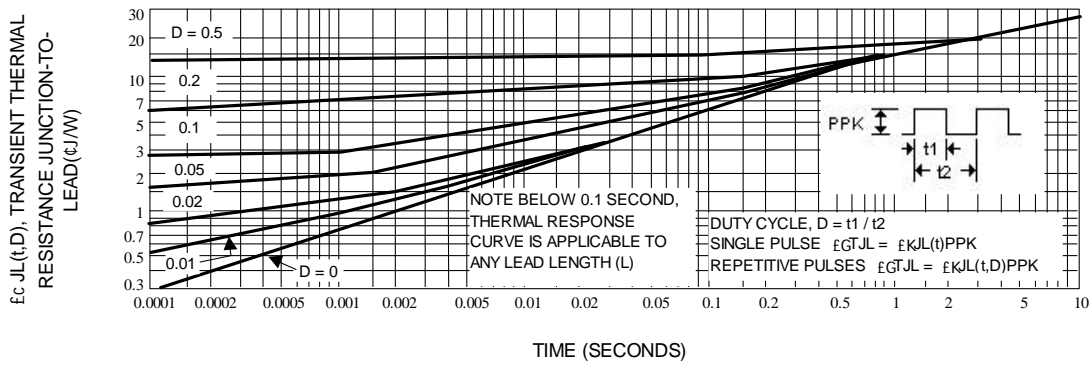
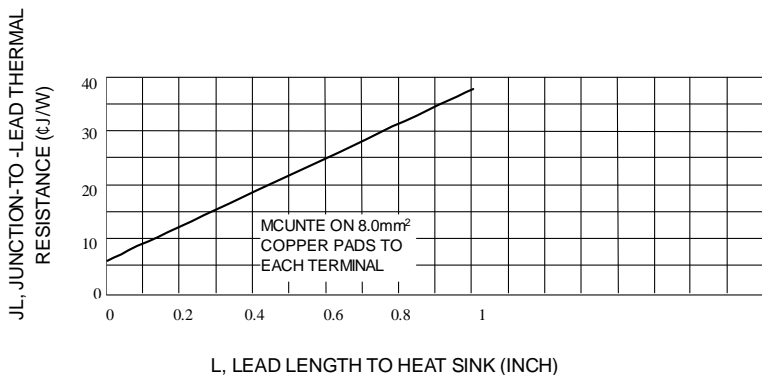
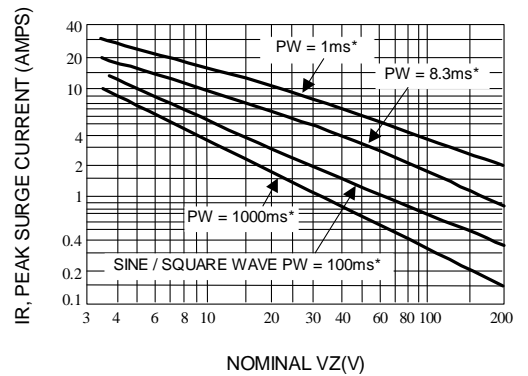
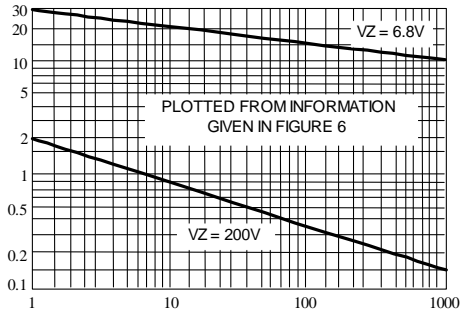

Fig. 3-TYPICAL THERMAL RESPONSE
Fig. 4-TYPICAL THERMAL RESISTANCE
Fig. 5-MAXIMUM NON-REPETITIVE SURGE CURRENT VERSUS NOMINAL ZENER VOLTAGE (SEE NOTE 3)
Fig. 6-PEAK SURGE CURRENT VERSUS PULSE WIDTH(SEE NOTE 3)
3. SURGE CURRENT ( $I_r$ ) - Surge current is specified as the maximum allowable peak, non-recurrent square-wave current with a pulse width, PW, of 8.3 ms. The data given in Figure 5 may be used to find the maximum surge current for a square wave of any pulse width between 1 ms and 1000ms by plotting the applicable points on logarithmic paper. Examples of this, using the 6.8v and 200V zeners, are shown in Figure 6. Mounting contact located as specified in Note 3. ( $T_A=25 \text{ }^\circ\text{C}$ ).
$\theta_{JT_L}$  is the increase in junction temperature above the lead temperature and may be found from Figure 3 for a train of power pulses or from Figure 4 for dc power.
Data of Figure 3 should not be used to compute surge capability. Surge limitations are given in Figure 5. They are lower than would be expected by considering only junction temperature, as current crowding effects cause temperatures to be extremely high in small spots resulting in device degradation should the limits of Figure 5 be exceeded.
\*\*\* Data of Figure 3 should not be used to compute surge capability. Surge limitations are given in Figure 5. They are lower than would be expected by considering only junction temperature, as current crowding effects cause temperatures to be extremely high in small spots resulting in device degradation should the limits of Figure. 5 be exceeded